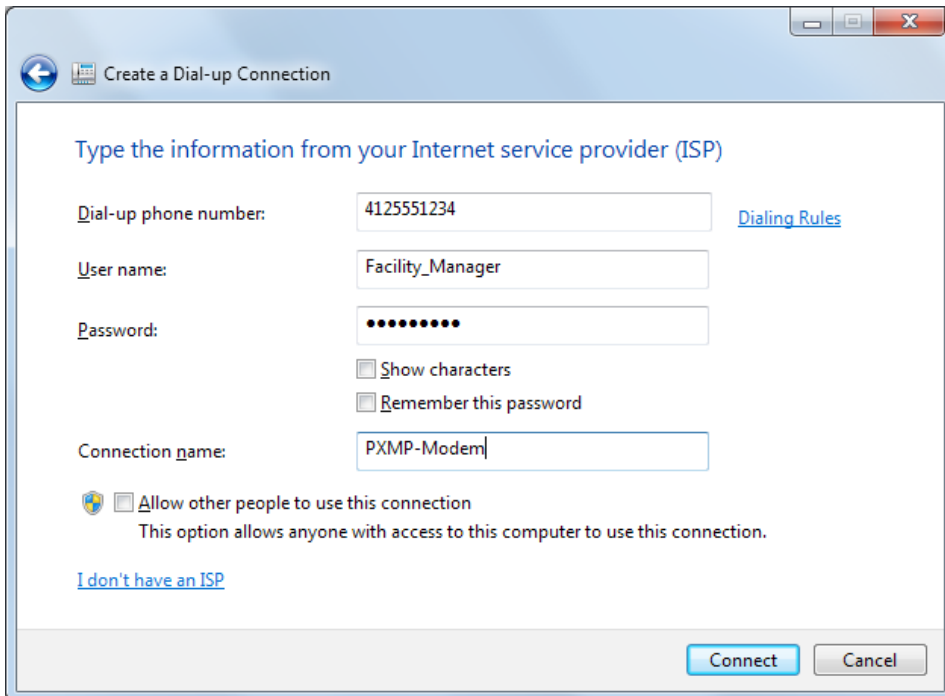
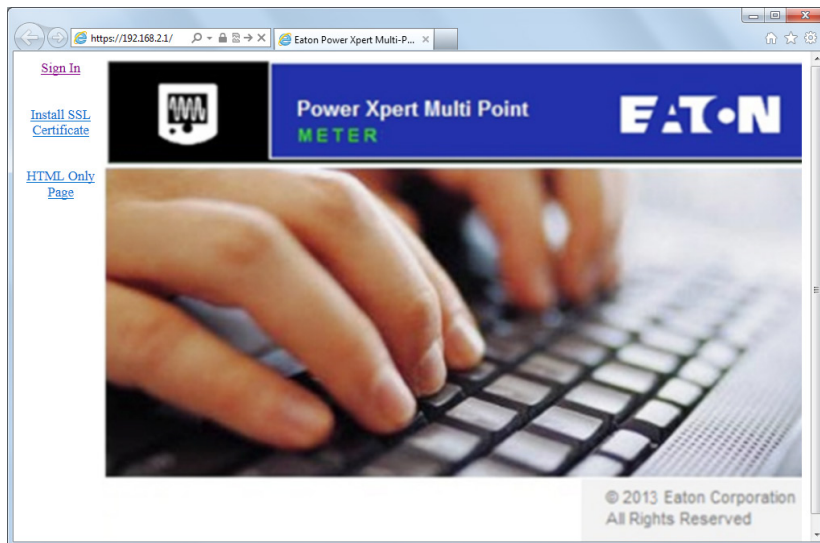
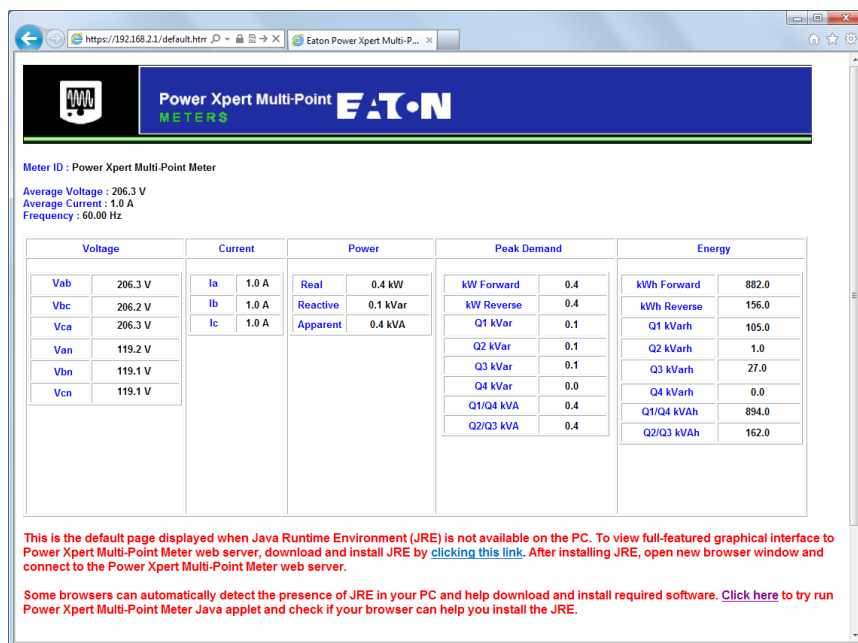

Figure 61. Create a Dial-up Connection.
Figure 62. Dial-up Connection Welcome Screen.
Figure 63. HTML Only Page.
4. A "Create a Dial-up Connection" window appears (Figure 61). The "Dial-up phone number" needs to be filled in with the phone number that is assigned to the
- Click the "Connect" button in (see Figure 61) to proceed with the dial-up connection. Upon a successful connection, the Facility Manager can access the PXMP-EPM-M at a fixed IP address of 192.168.2.1, as shown in Figure 62.
- The connection speed of a dial-up connection is much slower than an Ethernet connection. It is recommended to view the PXMP-EPM-M's meter data using HTML only page. Click "HTML Only Page" link in Figure 62, a web page similar the default page shown in Figure 63 appears.